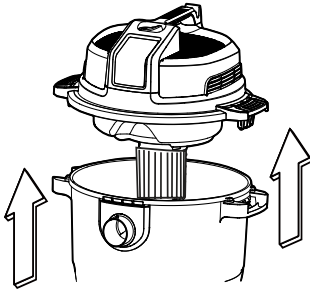

Fig. 13
21. Disconnect the hose 15 from the vacuum. Undo the latches 5 and remove the power head 12 from the collection tank. Fig 13. Place power head on soft, clean surface upside down. Clear all dirt or debris from the collection tank and hose. Place power head back onto the collection tank and secure latches.